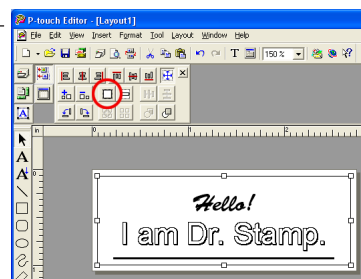

figure 17
- 3 Click the Maximum button in the Layout Properties (see figure 17).